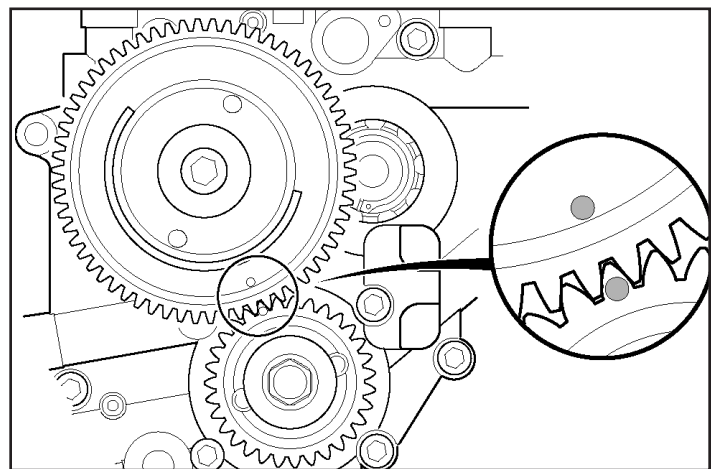

Figure 7
27. Turn rear wheel to rotate engine so that when the crankshaft pinion gear is installed, the timing mark will line up with the timing mark on the rear cam drive gear. See **Figure 7.**